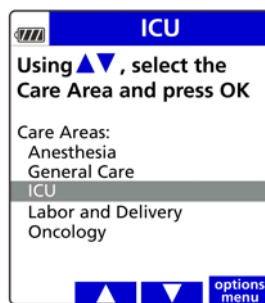

Figure 29. Select Care Area Screen.
4. Press the arrow soft keys to select the Care Area and press **OK**. See Figure 29.